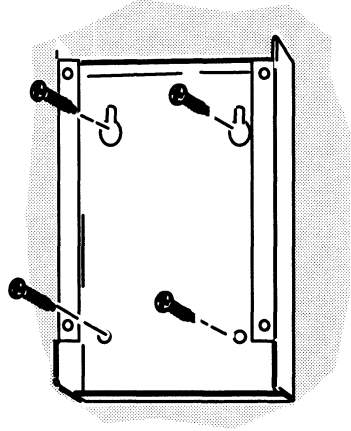

Figure D-17 Securing a VAC/16 Junction Box
- Secure the J-box base to the mounting surface by firmly installing all four mounting screws as shown in Figure D-17.